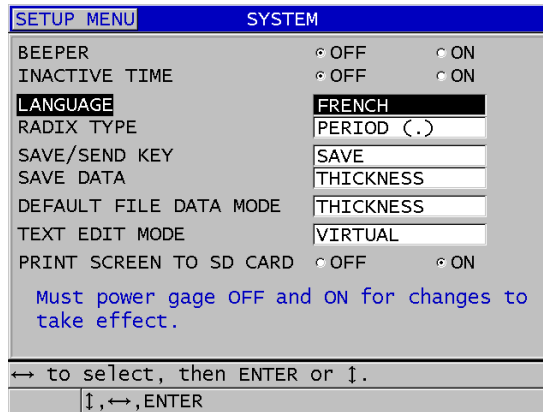

Figure 4-1 Selecting the user interface language
3. In the **SYSTEM** screen (see Figure 4-1 on page 56):